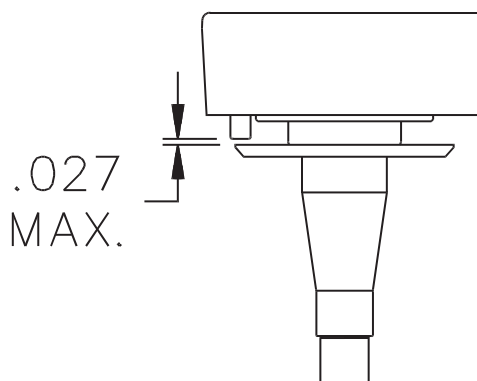

Figure 7 - ABS Sensor and Tone Ring Gap
8. Check physical gap between the sensor and tone ring (**Figure 7**). The maximum allowable gap is .027 inch. If the gap is greater than .027 inch, press on the wire lead end of the sensor and push the sensor into contact with the tone ring. Check that the ABS spring retainer and bushing are not unseated. Re-seat components as needed.